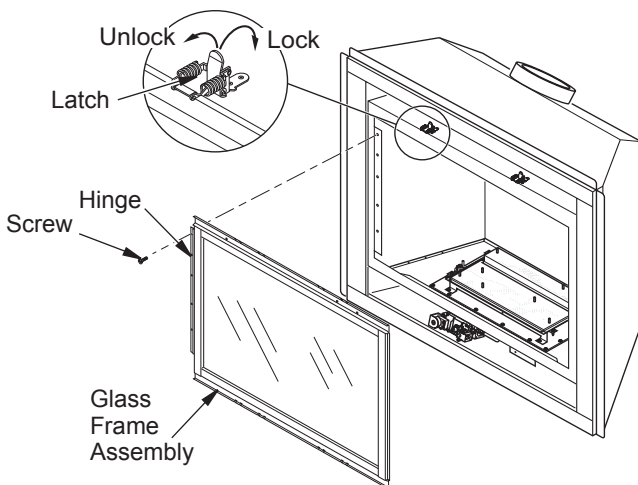

Figure 37 - Removing/Replacing Glass Door
2. Lift up on latches to unlock. There are two on top of firebox and two below firebox that hold glass door in place (see Figure 37).
3. While holding glass door to prevent it from falling and causing injury, remove the five screws from the hinge located on the left side of door frame assembly (see Figure 37).
5. Close glass door frame. Lock latches by placing the bar under the tab on door and pushing down and back on latch (see Figure 37).